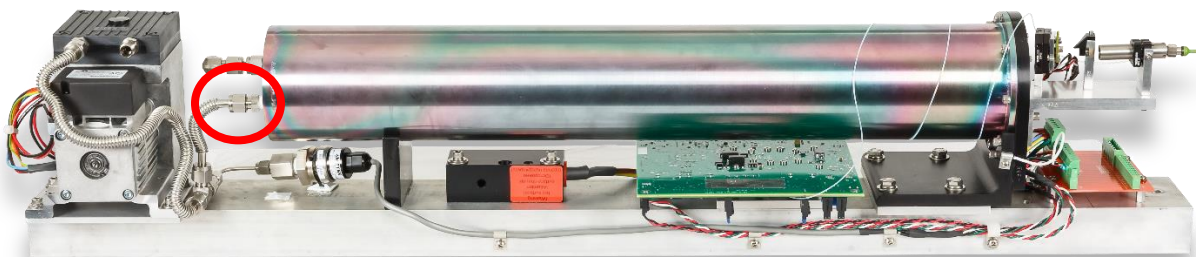

Figure 54: Location of the Fitting Connecting the Herriott Cell to the Vacuum Pump
2. Once extraction is complete, locate the fitting connecting the Herriott cell to the vacuum pump shown in Figure 54.